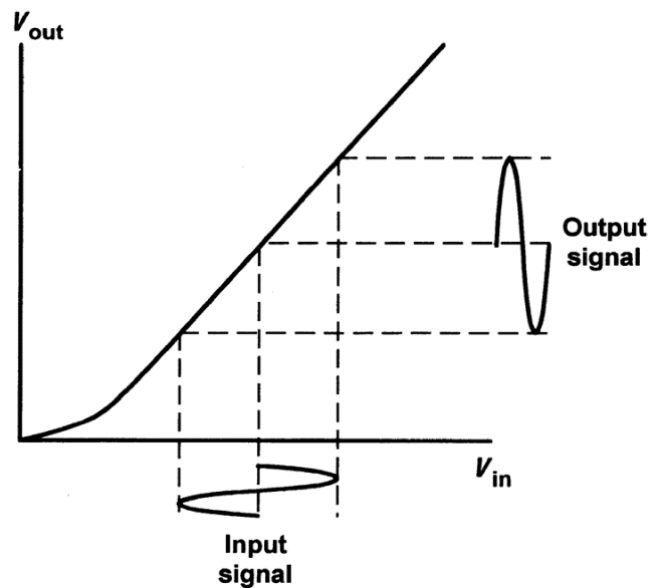

Figure 1.21 Class A (linear) operation
- In Fig. 1.21 the input and output signals for an amplifier are operating in linear mode.